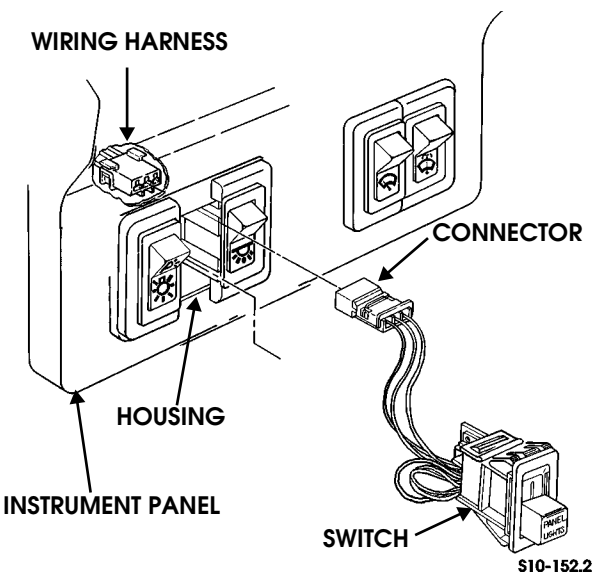

Figure 10-20: Dimmer Control Switch Replacement
3. Unplug connector from wiring harness (Figure 10-20).
2. Install switch in switch housing (Figure 10-20).